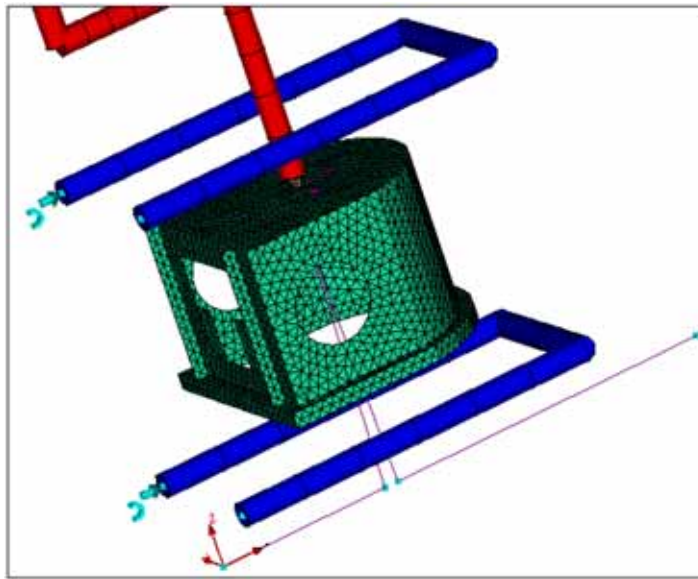

Figure 64: Curves for the bottom cooling line
- The model should look like Figure 64.